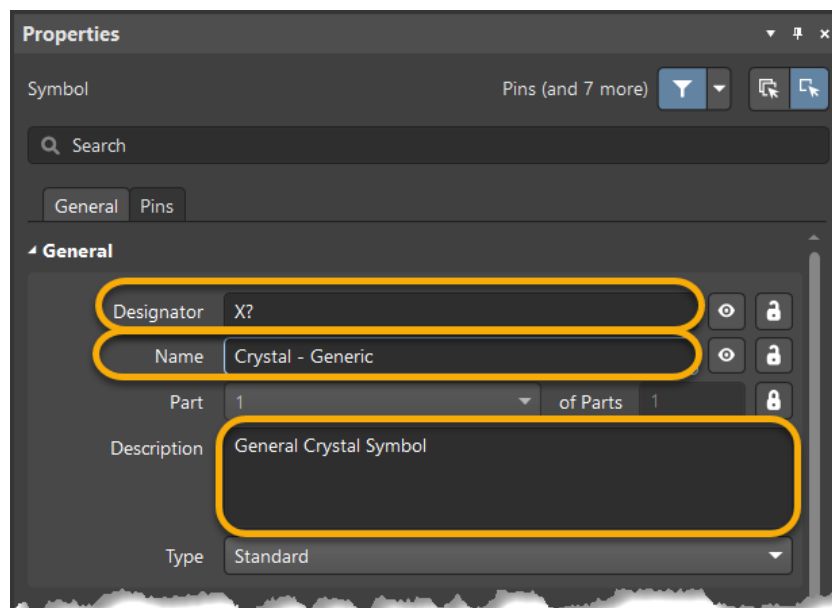

Figure 12. Symbol Properties
15. In the *Properties* panel, enter the following information shown in Figure 12 below.